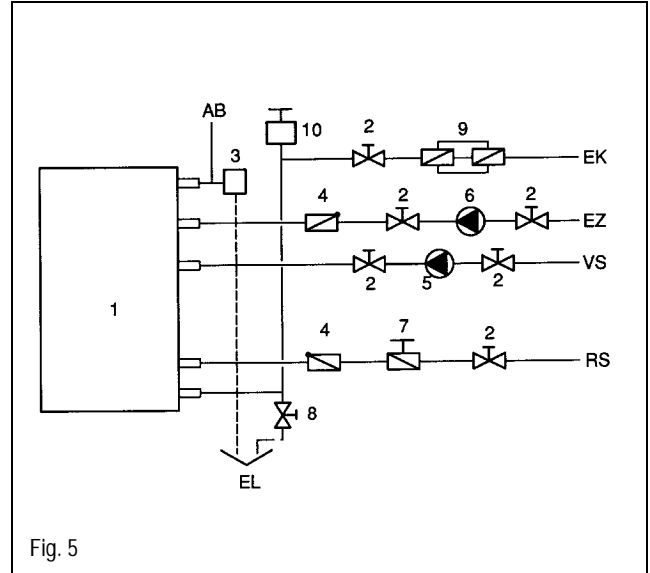

Fig. 5
- Install an approved and properly sized pressure and temperature relief valve (Fig. 5).